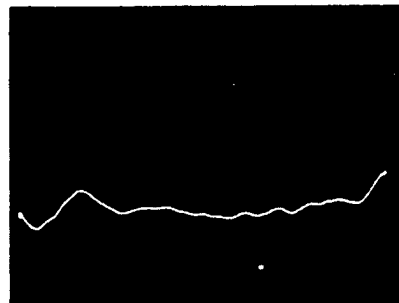

Figure 4-9. Typical Display
- Oscilloscope display should be similar to typical display shown in Figure 4-9.